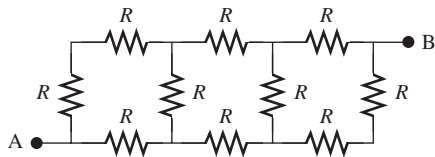

FIGURE P3.15 Circuit for Problem 3.15.
- 3.15** (H)* Each segment in Figure P3.15 represents a resistor R . Find R_{AB} , that is, the resistance between terminals A and B. (Hint: Let a current source I connect terminals A and B, and find the current through each resistor by symmetry of the circuit.)